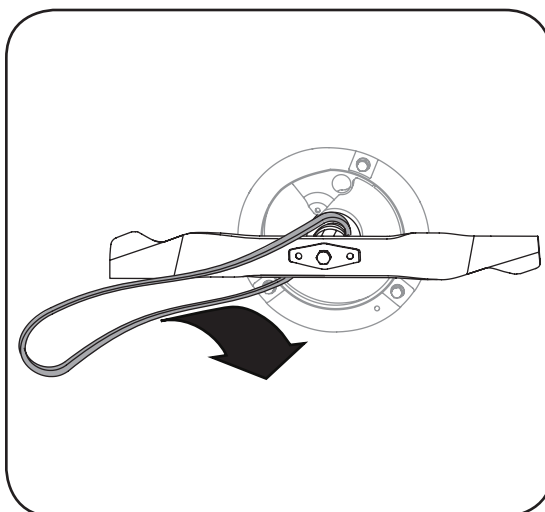

Figure 5-4: Removing belt.
3. Push transmission up a little and slide belt off the transmission pulley. Lift mower to access belt from underside of mower. Slide belt off of engine pulley and around the blade. See Figure 5-4.